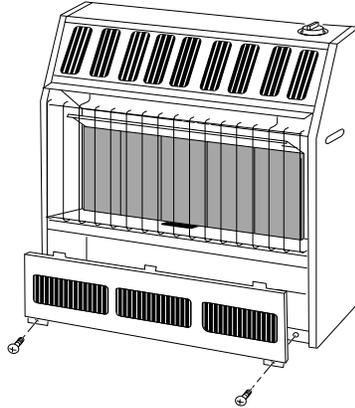

Figure 7 - Removing Front Panel of Heater (Model FA-5B Shown)
2. Pull bottom of lower front panel forward, then down (see Figure 7).